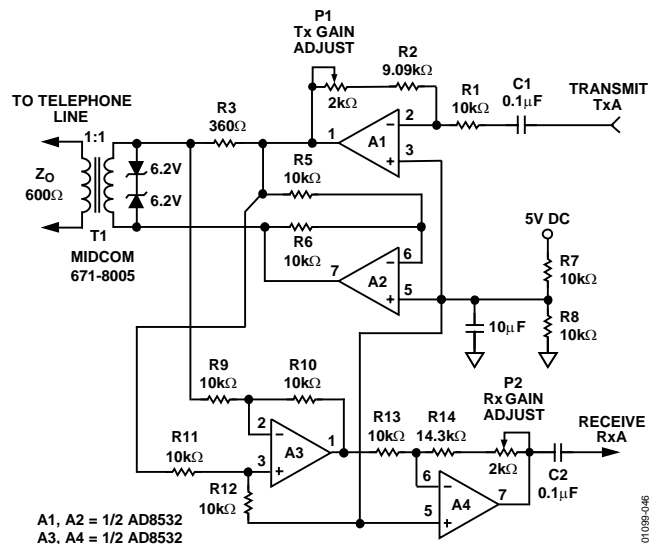

Figure 46. A Single-Supply Direct Access Arrangement for Modems
Figure 46 illustrates a 5 V only transmit/receive telephone line interface for 600 Ω transmission systems. It allows full duplex transmission of signals on a transformer coupled 600 Ω line in a differential manner. Amplifier A1 provides gain that can be adjusted to meet the modem output drive requirements. Both A1 and A2 are configured to apply the largest possible signal on a single supply to the transformer. Because of the high output current drive and low dropout voltage of the AD8531/AD8532/AD8534, the largest signal available on a single 5 V supply is approximately 4.5 V p-p into a 600 Ω transmission system. Amplifier A3 is configured as a difference amplifier for two reasons: (1) It prevents the transmit signal from interfering with the receive signal, and (2) it extracts the receive signal from the transmission line for amplification by A4. A4's gain can be adjusted in the same manner as that of A1 to meet the modem's input signal requirements. Standard resistor values permit the use of SIP (single in-line package) format resistor arrays.